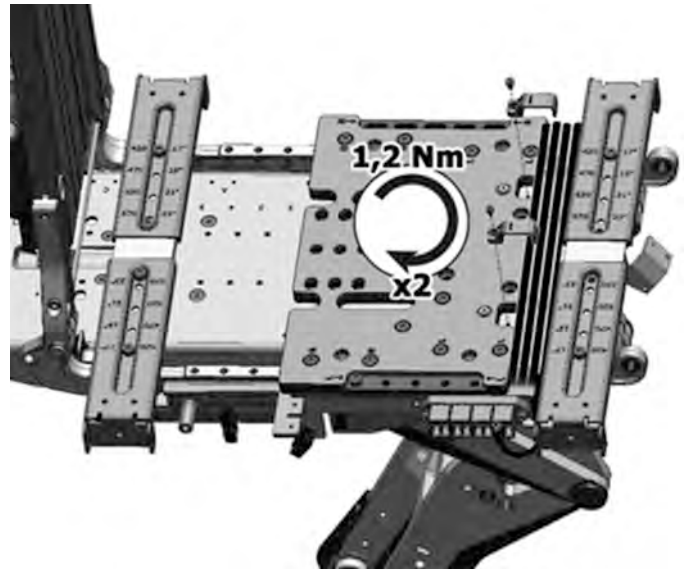

Figure 141. The bus cables are laid across the seat frame and mounted in the two cable brackets.
- The cables are laid across the seat frame and mounted in the two cable brackets. See fig. 141. Avoid crossing the cables with each other between the connector block and the first cable bracket on top of the seat. Use a Torque wrench to tighten the screws. **Tightening torque 1.2 Nm / 0.9 Ft/lbs.**